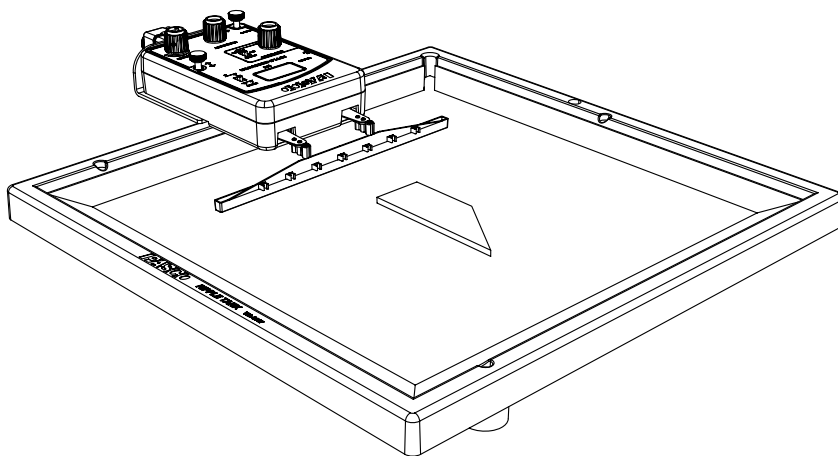

Figure 2.2: Position of Trapezoidal Refractor
1. Arrange the trapezoidal refractor in the water in the middle of the tank so the rectangular end of the refractor is parallel to the plane wave dipper and about 5 cm from the dipper (see Figure 2.2).